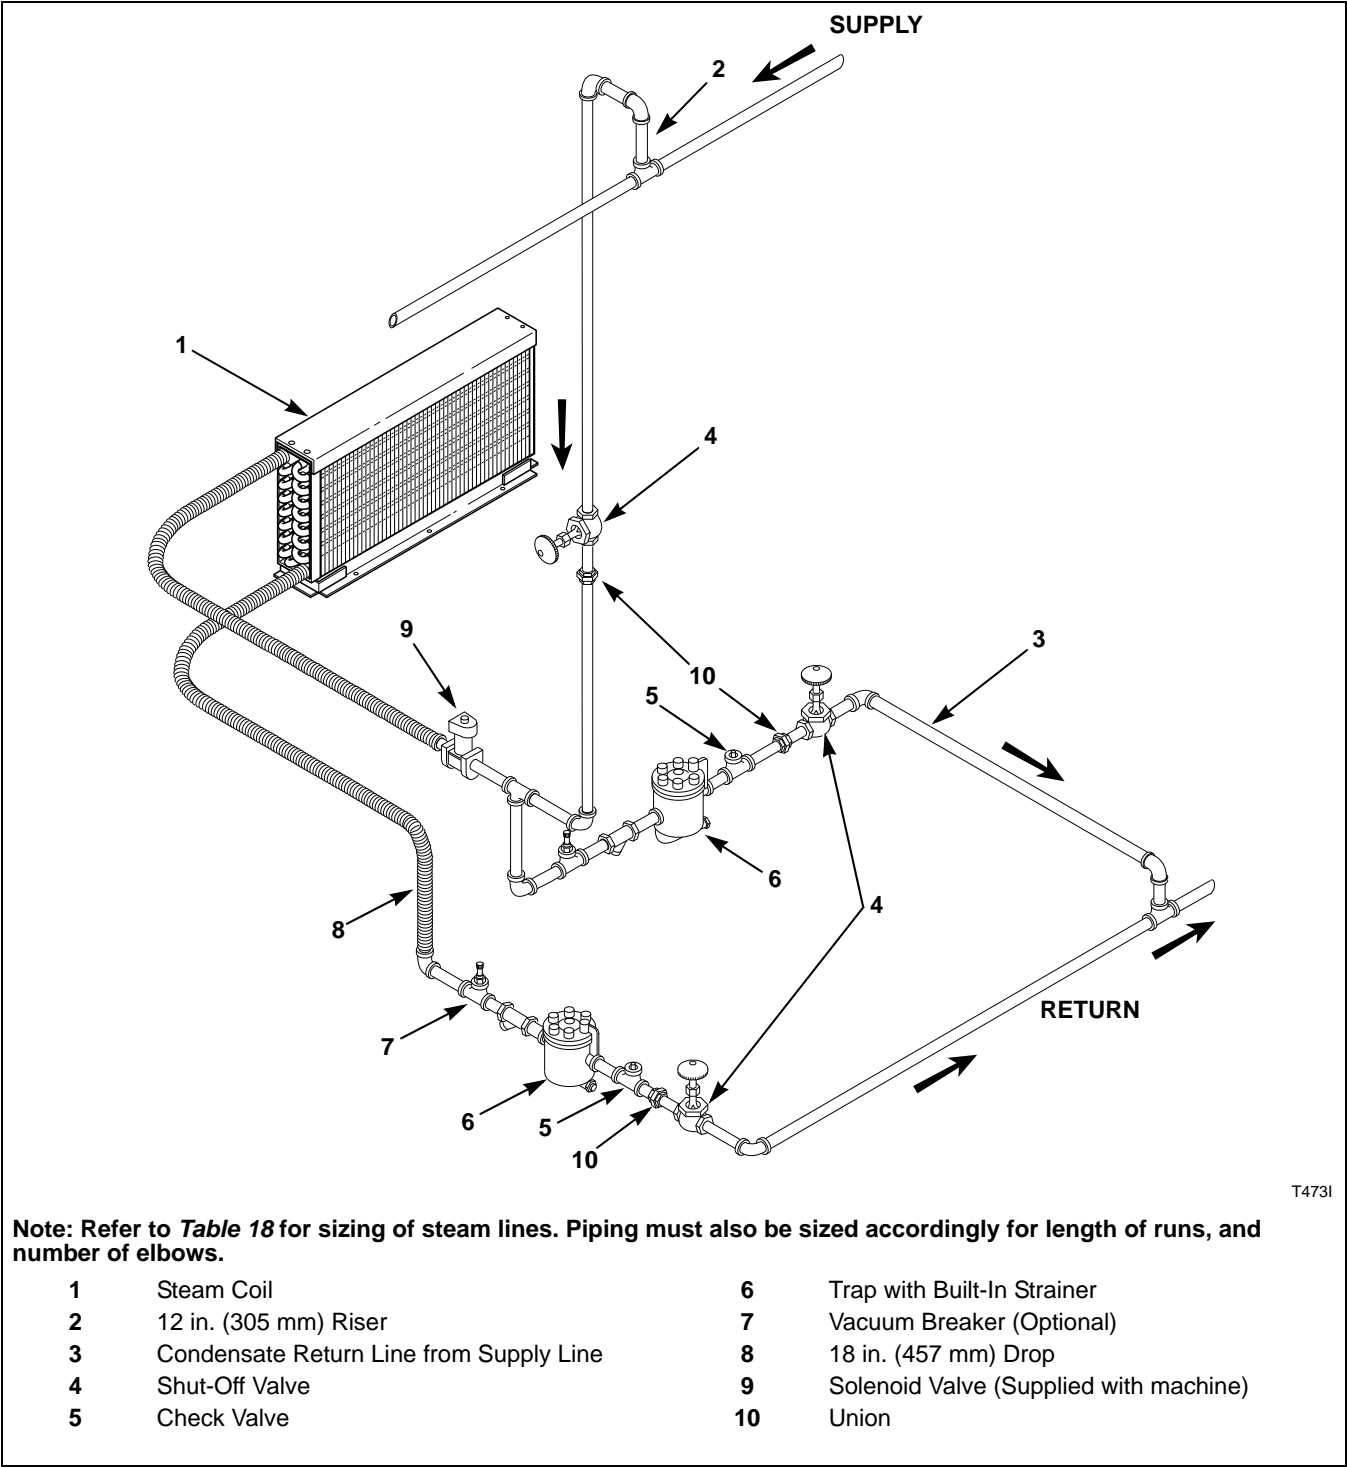

Figure 27
- Refer to *Figure 27* for proper steam pipe configurations.
The steam trap must be installed and the coil outlet connections must be connected to the condensate return lines. The following steps outline the procedure for installing the steam trap and connecting the condensate return lines. Refer to *Figure 27* for typical installations.